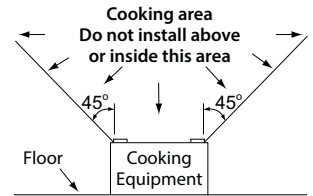

Figure 1
2. Not suitable for use in cooking areas (Figure 1).